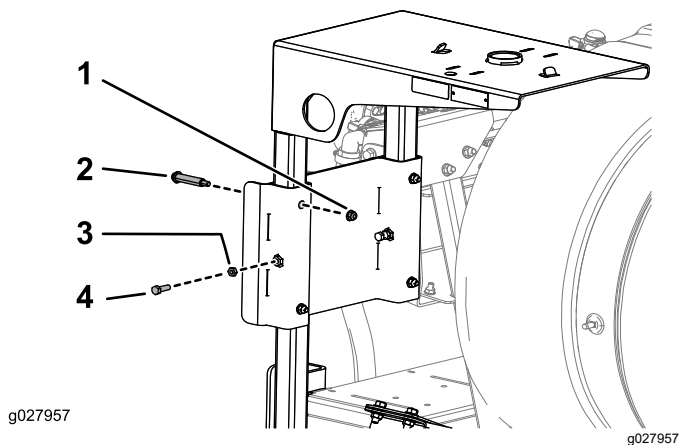

Figure 14
6. Insert the reel shelf frame into the slots onto the reel-shelf support bracket and secure the shelf using 4 shoulder bolts, 4 flange nuts (5/16-18 inch), 2 bolts (5/16-18 x 1 inch), and 2 jam nuts (5/16-18 inch) as shown in Figure 14.